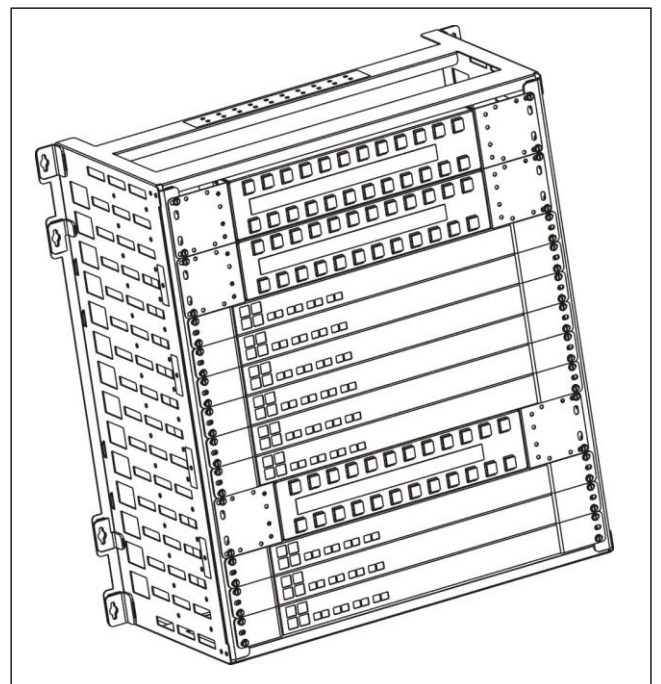
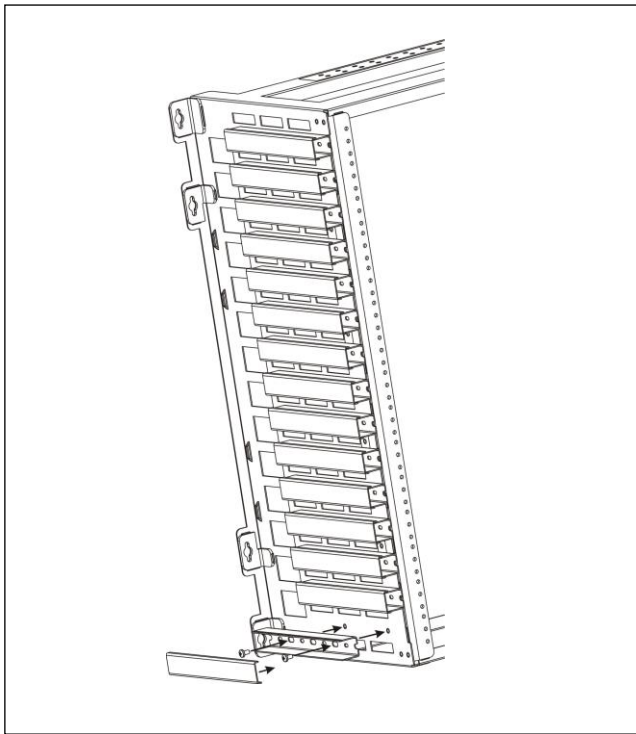

Figure 2. WR-15U23 w/ equipment installed (example)
Figure 8. Cable guide installation
- ① Install rack equipment with 23" hole spacing by carefully sliding the chassis through the front of the WR-15U23 and aligning chassis mounting ears with the threaded holes in the rails of the WR-15U23 frame. Insert and tighten #12-24 machine screws (customer provided) on each side of the chassis. An example of a fully populated wall rack is shown in Figure 2.
- ② Attach ground lugs associated with each equipment chassis to the threaded ground holes on the WR-15U23 crossbar as needed.
- ① To install a cable guide to the side of the mounting, first remove the sliding cover from the cable guide. Insert two of the #10-32 x 3/8" screws (included in CG-5 package) through the cable guide and into the threaded holes on the side of the WR-15U23 frame (Figure 8).